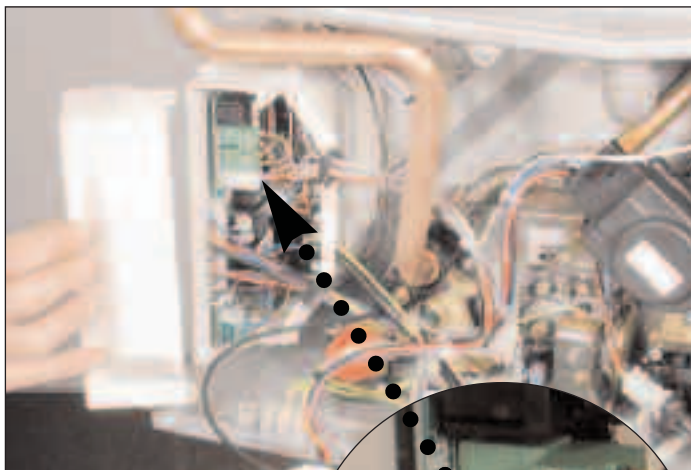
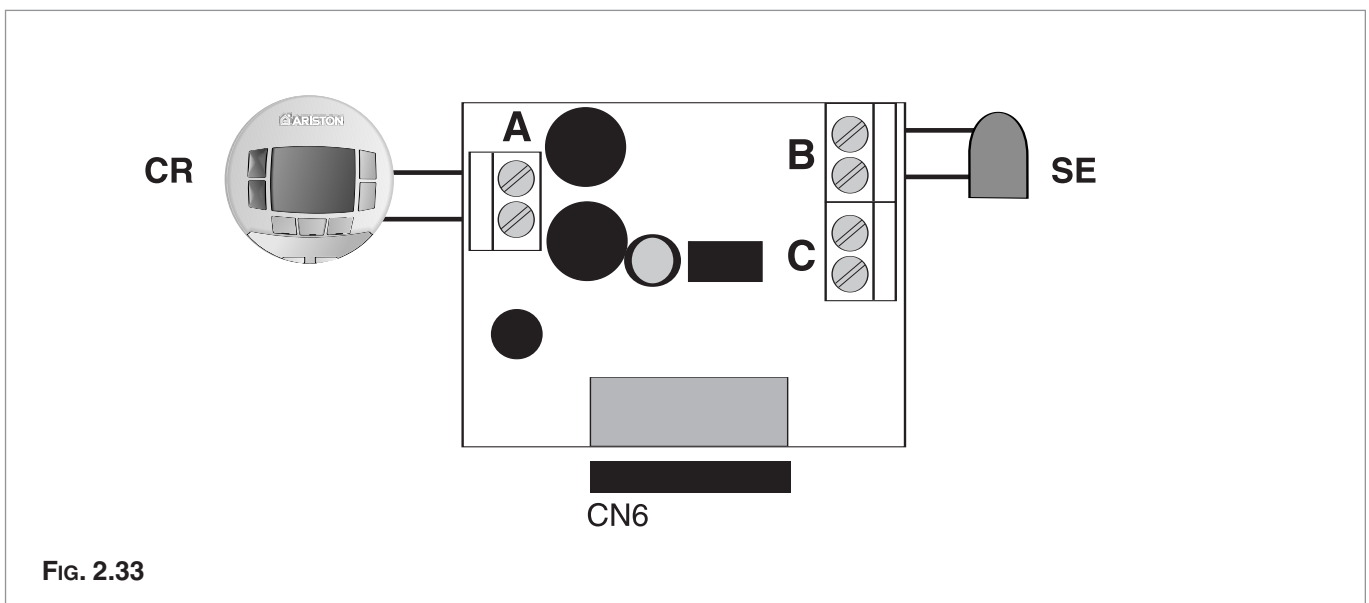

Fig. 2.31
Fig. 2.33
1. Remove the cover of the main PCB box (Fig 2.31).
- CN10 - Safety thermostat for underfloor heating (SP)
- CN 9 - Room Thermostat (TA)
- CN 6 - Interface PCB (Fig. 2.33)
The external sensor is supplied with the interface PCB (Fig. 2.33).
To connect the external sensor, plug the interface PCB into connector **CN6** on the main PCB (see Fig. 2.33).
To connect between the interface PCB and the external sensor, it will be necessary to use 2x 0.5mm² cable, connected to the two terminals on the external sensor and to Terminal B (Fig. 2.33) on the interface PCB.